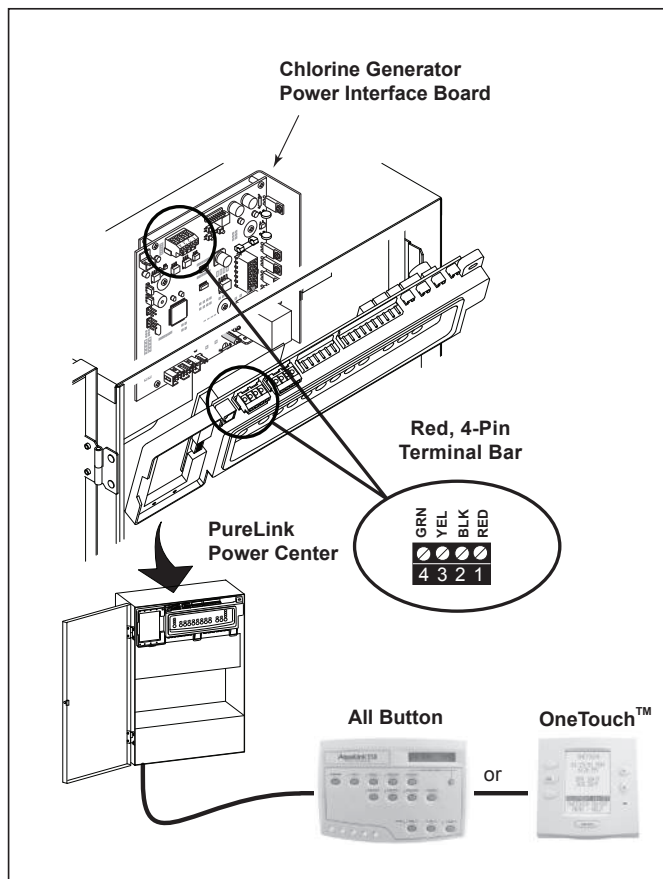
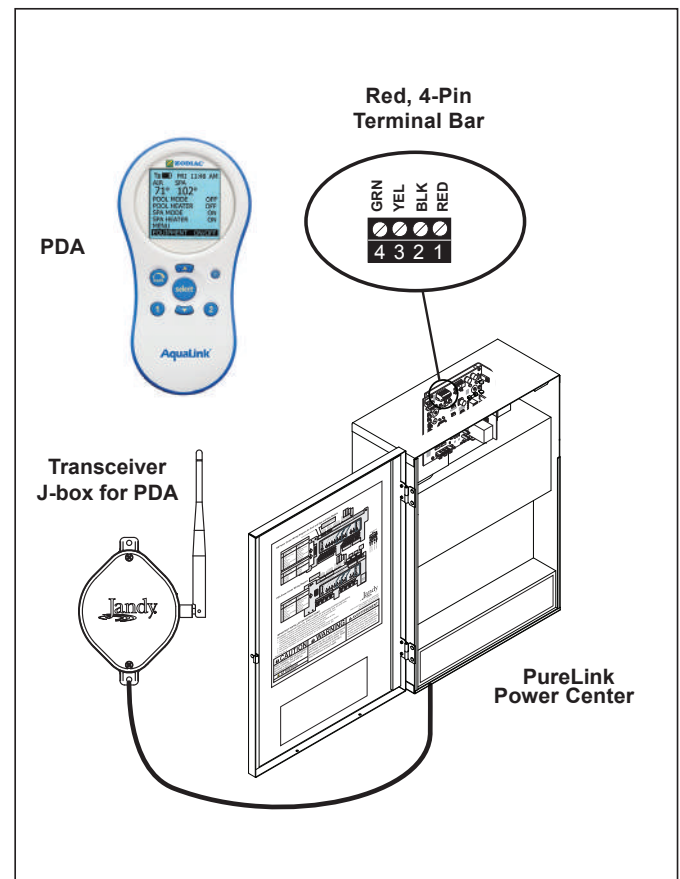

Figure 16a. Wiring a PureLink Control System Network
Figure 16b. Wiring a PDA Control System Network
The chlorine generator electronics in the PureLink power center and the AquaLink RS controller require a four (4) wire connection to communicate. Any outdoor rated four (4) conductor cable, minimum 22 AWG, can be used. Locate the appropriate screw terminals on the circuit board according to Figure 16a and Figure 16b. Wire the chlorine generator power interface board from the red 4-pin terminal bar to the AquaLink RS red 4-pin terminal bar. See Figure 16a.